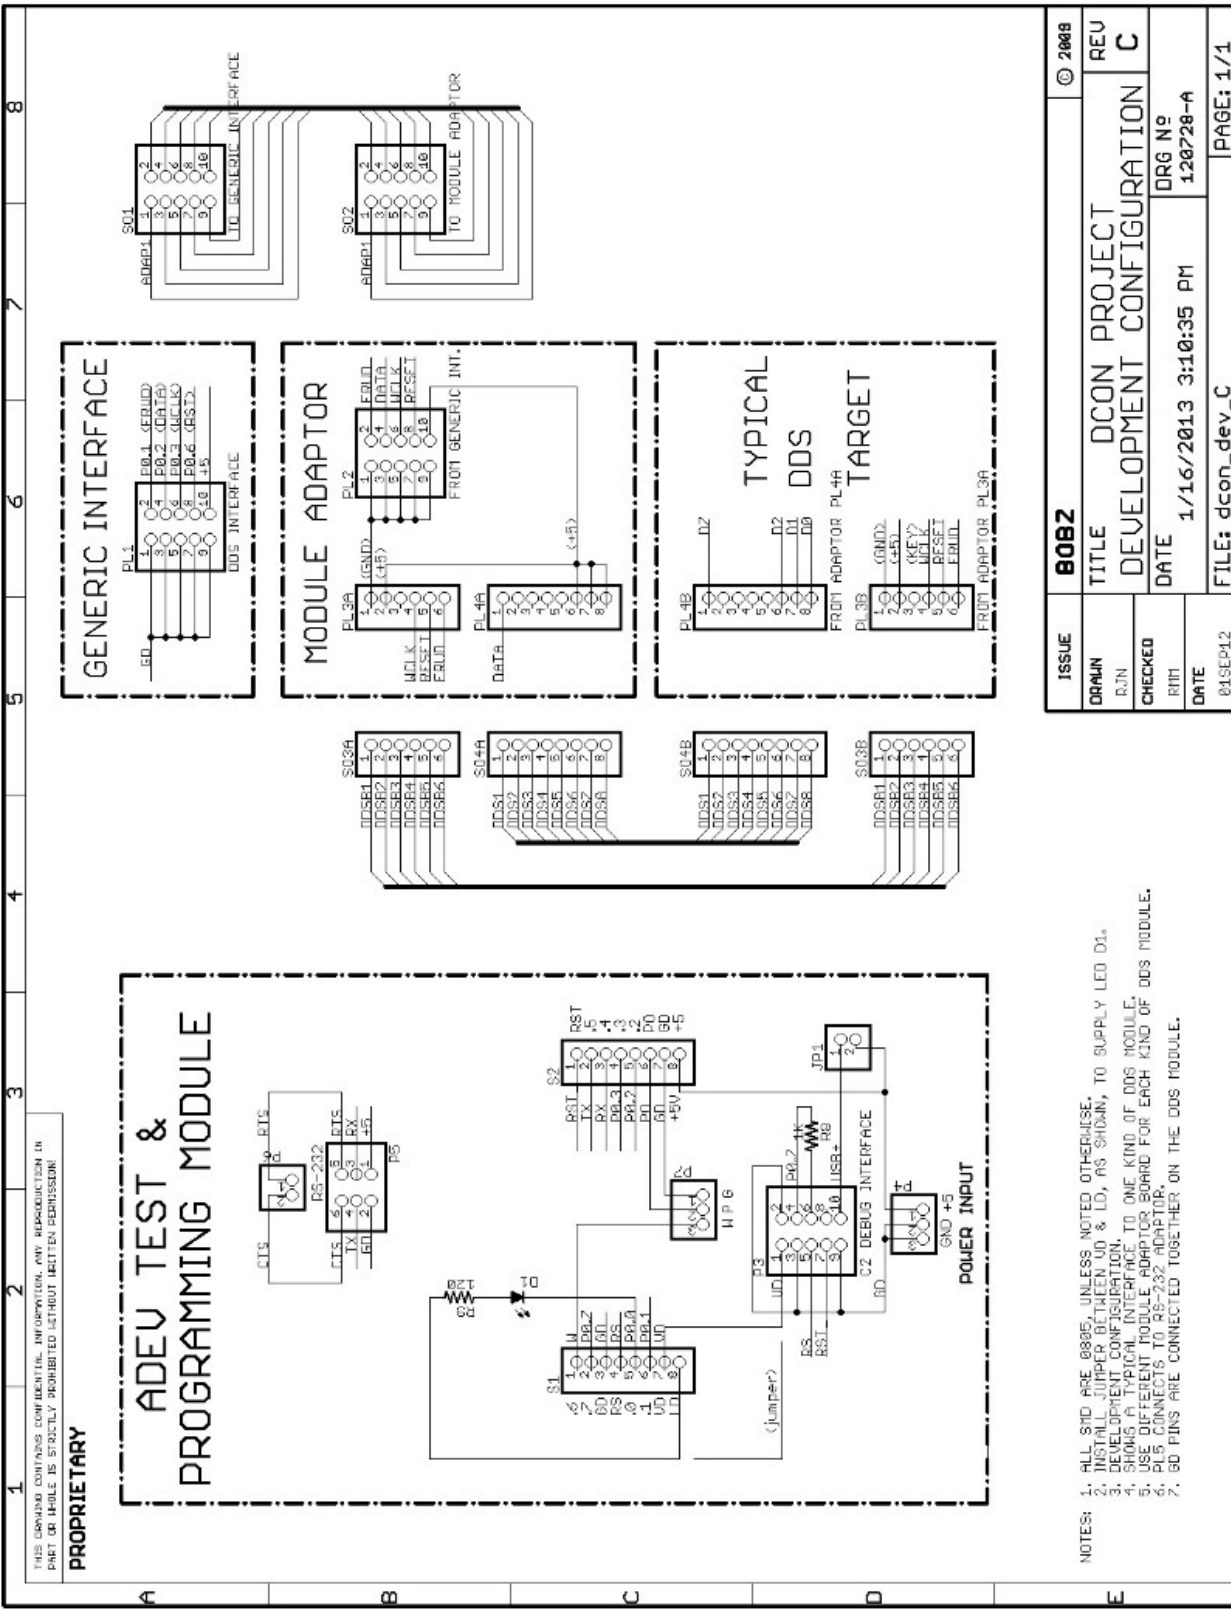

Figure 2 -- Schematic of a DCON Development Configuration
- Figure 2 -- Schematic of a DCON Development Configuration
Figure 2 is a schematic showing a DCON development configuration with two DDS units of different manufacture. One of the boards is connected via a cable external to the DCON motherboard. This schematic shows how the Test/Programming Board connects via an adapter board to a DDS module that has header connections that are not arranged in a DIP configuration.